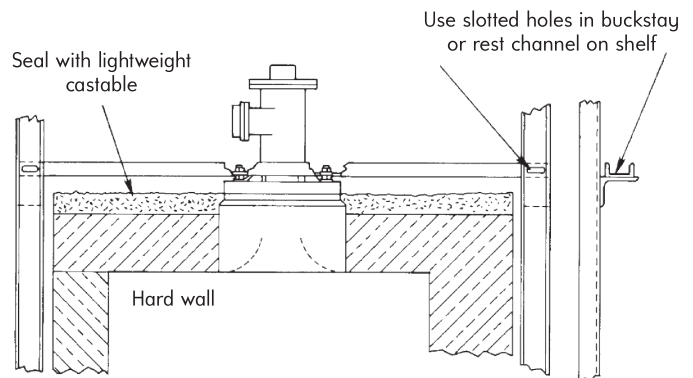

Figure 3
- C. An alternate method for 4832 Burners, suitable under certain conditions, is shown in Figure 3. Channels direct from the buckstays to the cover plate are usable **only** where they will not be subjected to excessive furnace heat of flue gases passing around edges of burner tile. This imposes two limitations: